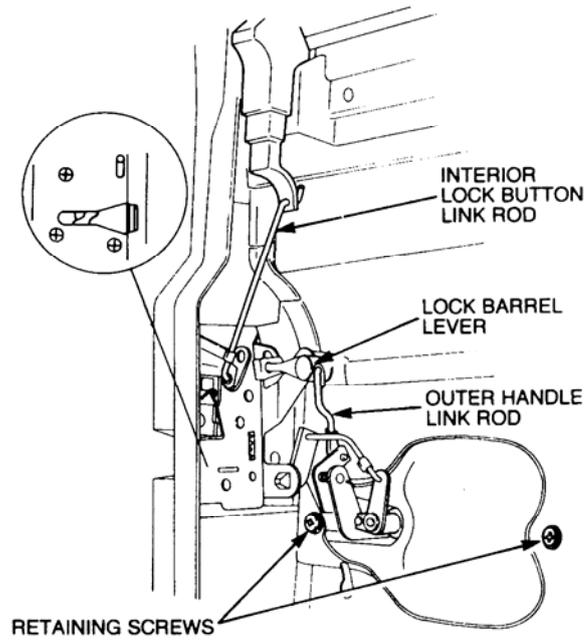

Figure 19 Door Lock Removal
- bb. Disconnect the outer handle link rod from the lock assembly (refer Figure 19).
- ff. Remove the recessed screws securing the outer door handle to the door (refer Figure 19).
- k. Connect the link rods (refer Figure 19).